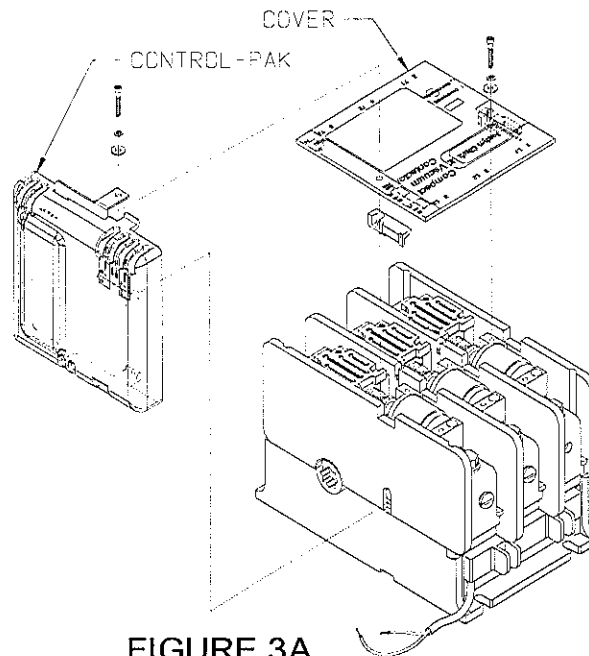
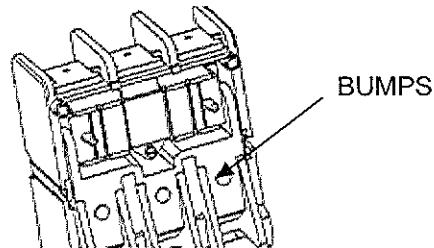

FIGURE 3A
FIGURE 3D
3. Remove the cover attachment screws from the contactor and remove the cover (FIGURE 3A).
4. Disconnect the two wire leads from the Coil to the Control-Pak. Remove the Control Pak from the contactor and set on tabletop (FIGURE 3A).
- Carefully replace the Upper Housing, ensuring that it is orientated correctly and that the Return Springs are seated on the outer two bumps on the bottom of the Contact Operator (FIGURE 3D). Replace the (6) screws that secure the Upper Housing. Tighten the screws equally in a diagonal pattern approximately two turns at a time until tightened to 12 inch lbs. in the same diagonal pattern (FIGURE 3A).
- Reinstall the cover and secure it with the original mounting hardware. Tighten the four screws in a diagonal pattern to five inch lbs. (FIGURE 3A).
2. Remove the cover attachment screws from the contactor and remove the cover (FIGURE 3A).
3. Remove the Control Pak from the contactor (FIGURE 3A).
5. Reinstall the cover and secure it with the original mounting hardware. Tighten the four screws in a diagonal pattern to five inch lbs. (FIGURE 3A).
4. Reinstall the cover and secure it with the original mounting hardware. Tighten the four screws in a diagonal pattern to five inch lbs. (FIGURE 3A).
11. Reinstall the Cover and secure it with the original mounting hardware. Tighten the four screws in a diagonal pattern to five inch lbs. (FIGURE 3A).